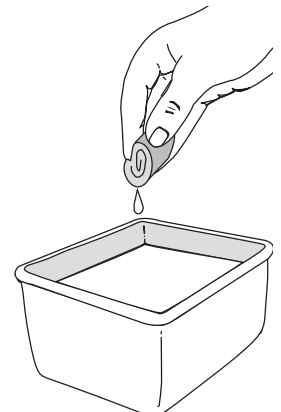

Fig. 25
3. Wash the filter in detergent and water (Fig. 25). Rinse the filter thoroughly. Squeeze out excess water. Allow it to dry completely.